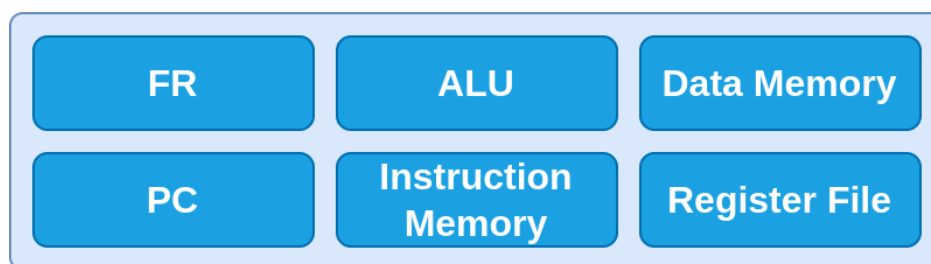
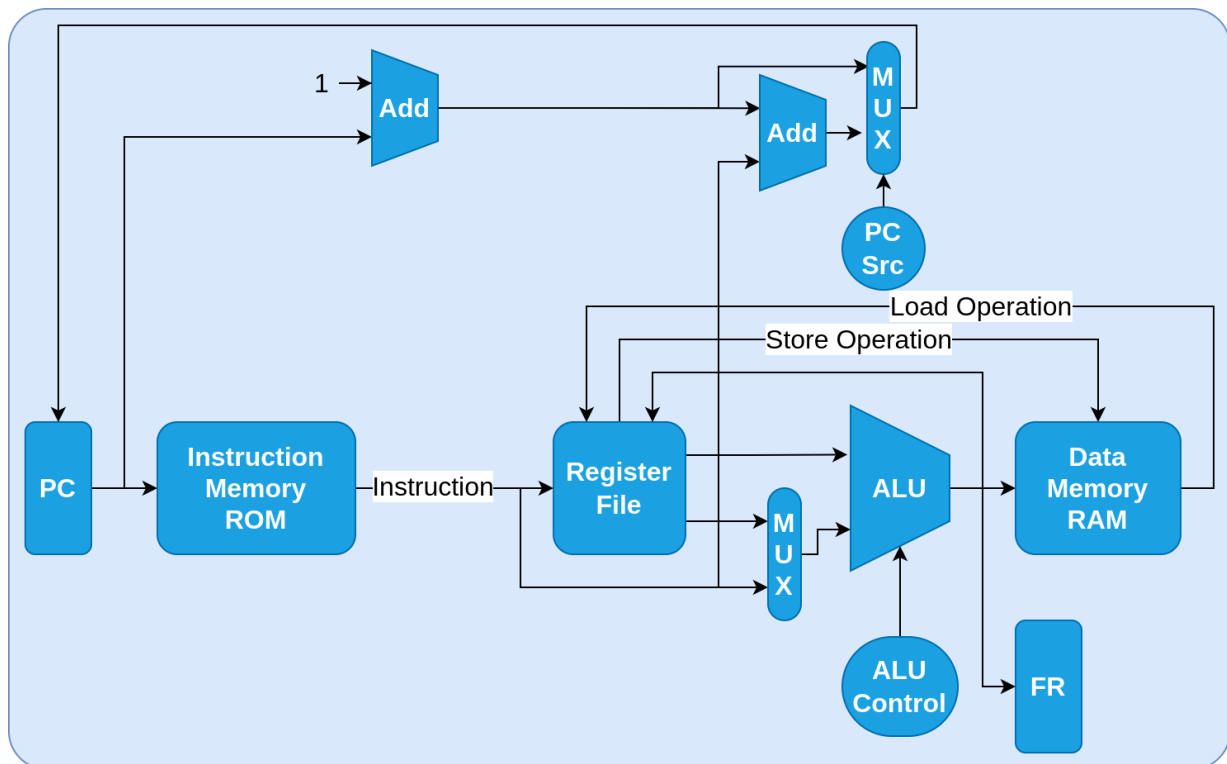

Figure-1: MIPS Processor Block Diagram
Figure-2: MIPS Processor Data Path
- 4.1. Design and implement the control unit required for the MIPS processor as shown in block diagram in figure-1. The instruction set is provided in table-3 and table-4.
Use the components implemented in previous experiments to build a basic 8-bit processor consisting of an ALU, Register file, Instruction memory, data memory, PC and Flag register, as described in Figure-1. The data path is explained in Figure-2.